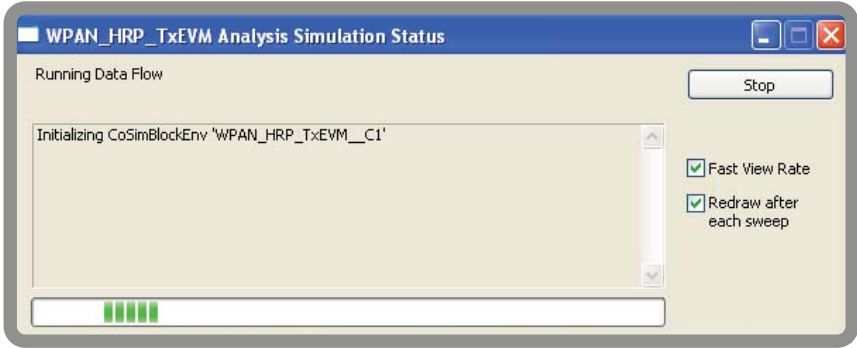

Figure 7. The SystemVue simulation status window shows that that simulation is pending connection to ADS.
- Run the SystemVue example first. The SystemVue simulation will “pause” as it tries to find a corresponding ADS simulation session (Figure 7).